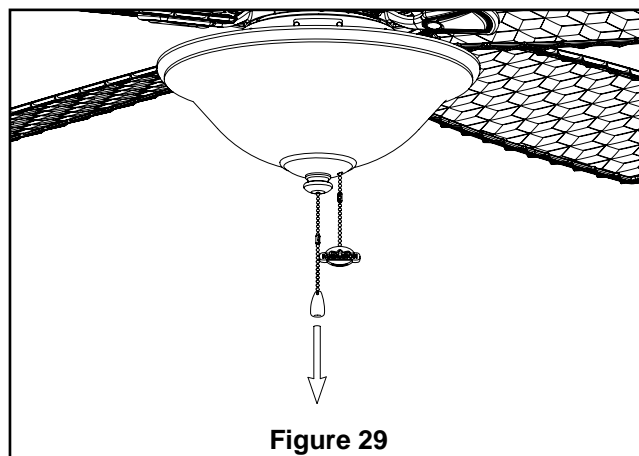

Figure 29
4. <<FP8011OB ONLY>> Check the operation of the down light by gently pulling on the light pull chain. (Figure 29)